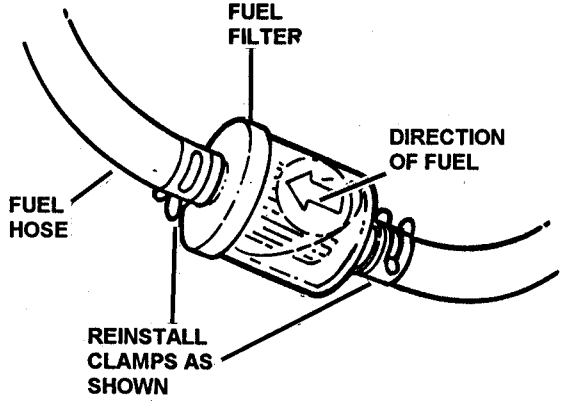

FIGURE 3.9
3. Install new fuel filter. Reinstall hose clamps. See Figure 3.9.